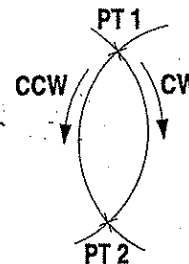

Figure B-41
**NOTE:** The direction of the arc must be specified as one of the parameters in this command. The direction is determined by moving around the arc from point 1 to point 2. The direction of this movement determines the direction of the arc. An example of this is shown in Figure B-41.